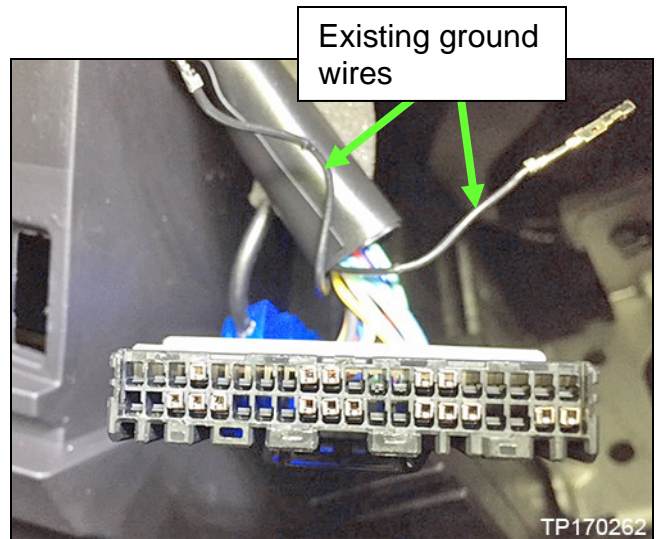

Figure 22
- Figure 22 shows the existing ground wires removed.